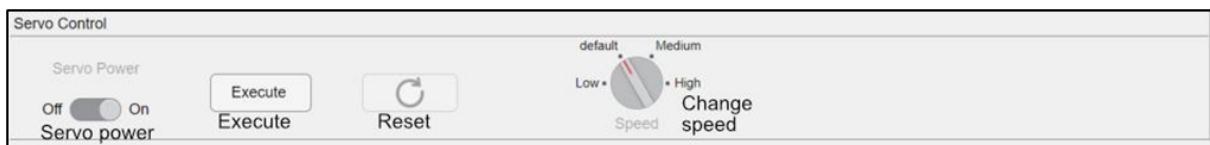

Figure 18: Layout for servo control.
9. Before clicking execute, you can change the speed. Click the knob-like button, and choose low, default, medium or high. See Figure 18. 10. Then click execute, see Figure 18. The Classroom Exo should then start moving. (The button should turn magenta/purple/pink) 11. If you click on the reset button next to the execute one, see Figure 18, the Classroom Exo should return to the reference angle and you should be able to click execute again.